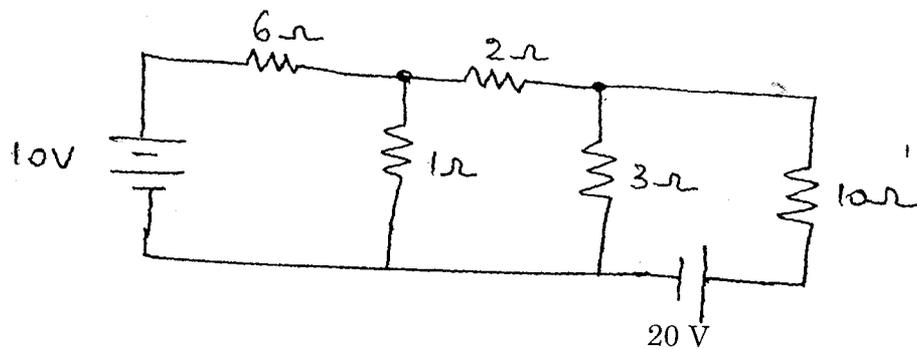

Fig Q. 12 (a) (i)
11. (i) Explain briefly main parts of a d.c machine. (8)
- (ii) A 230 V d.c. shunt motor takes an armature current of 6 A from 230 V mains at no load and runs at 1200 rpm. The armature resistance is 0.2Ω . Determine the speed and torque developed by the motor with 37 A armature current and the same flux. (8)
12. (a) (i) Find the current through 2Ω resistance in the network using loop current analysis (Fig Q. 12 (a) (i)). (8)